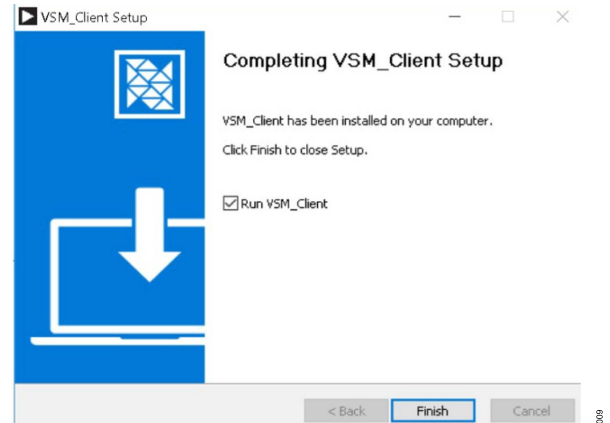

Figure 9. Installation Complete
5. When the installation is complete, click **Finish** to complete the installation process (see Figure 9).